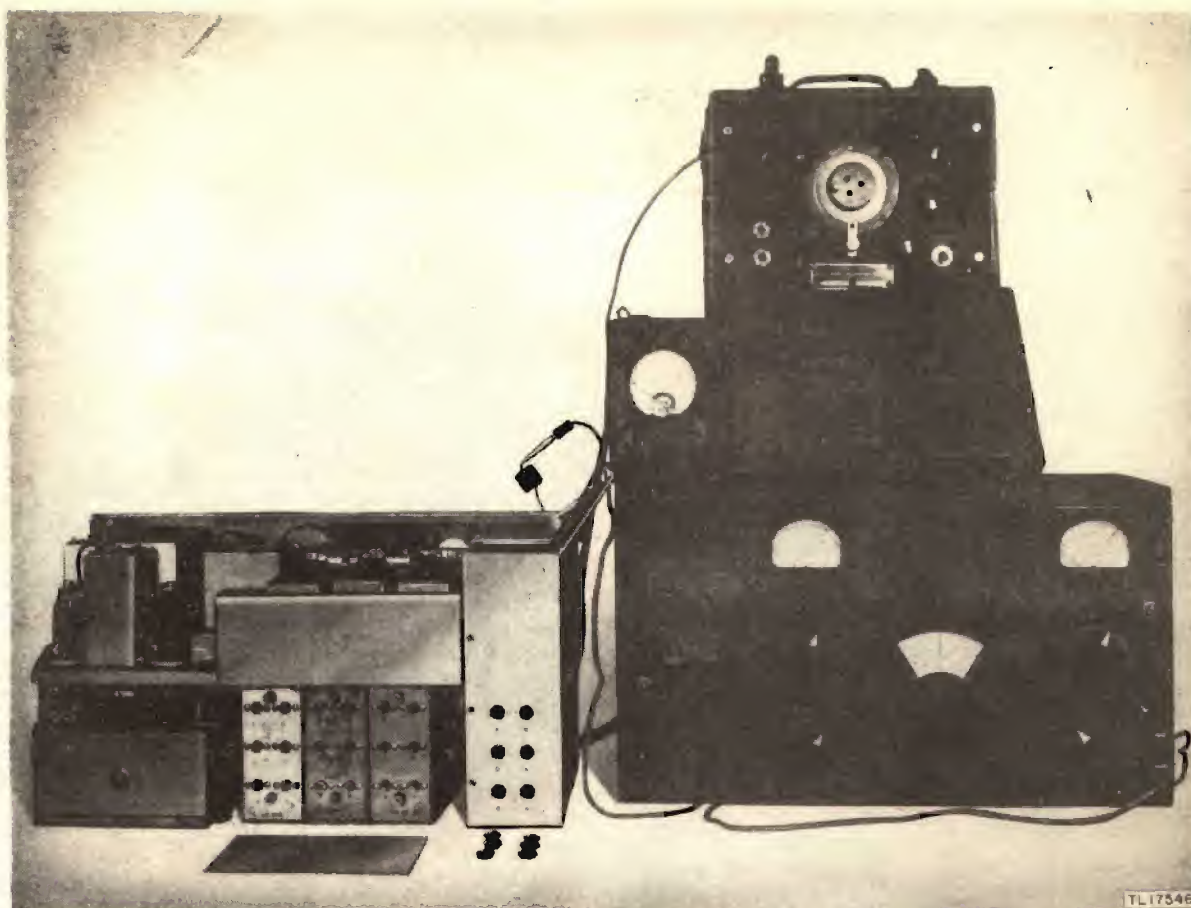

Figure 15. R-f oscillator alignment, typical set-up.
b. PREPARATION. Set up the receiver and alignment equipment as shown in figure 15. Calibrate the signal generator for a 2,900-kc